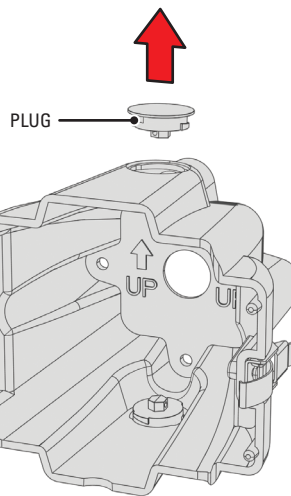

Figure 15. Removing an Auxiliary Opening Plug
6. *To use the top or bottom opening for cables:* Remove the plug from the appropriate opening in the J-box (refer to Figure 15). Use a 7/16-inch wrench.